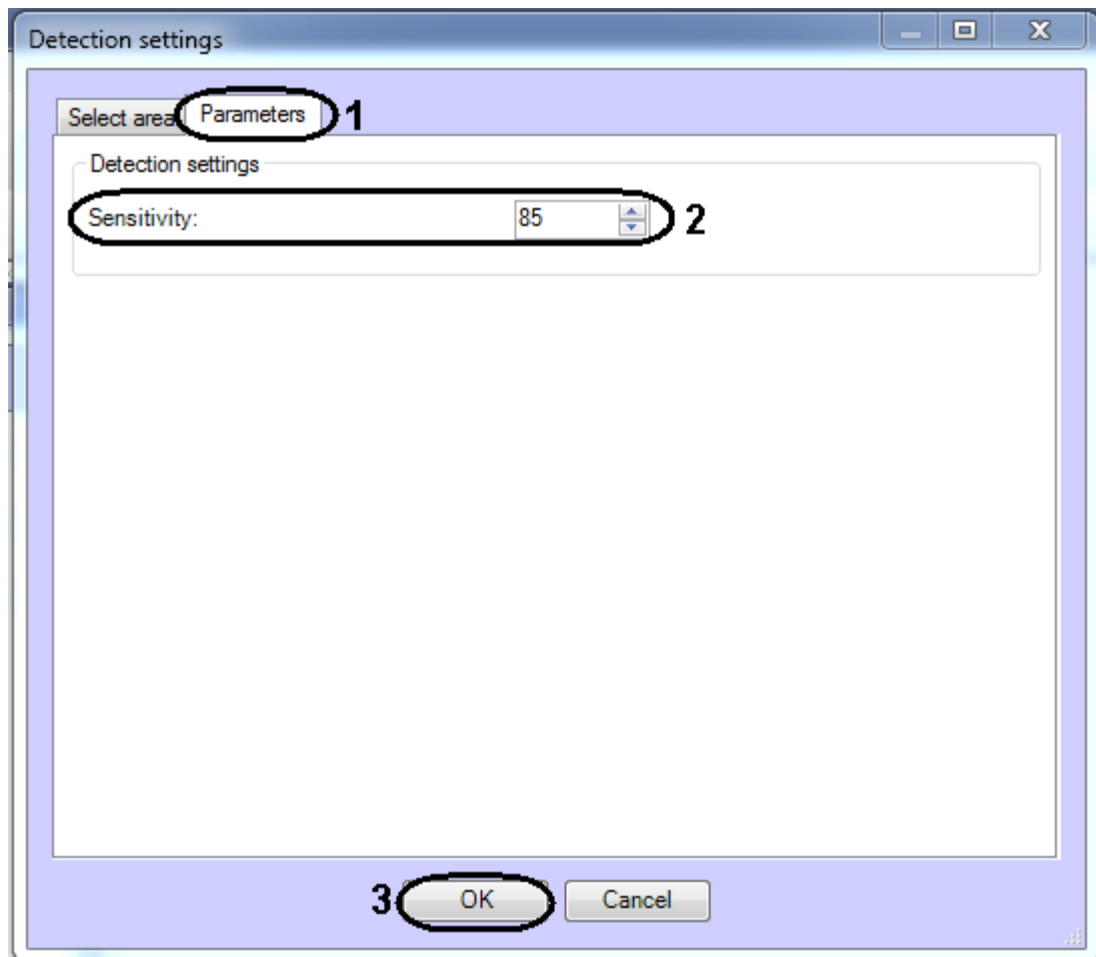

Fig. 6.4—5 Sensitivity configuration
4.2. Using the **up-down** buttons enter the value of sensitivity parameter in the **Sensitivity** field (Fig. 6.4—5, 2). The optimal value is selected experimentally by testing detection on triggering in the required conditions. The value range is from 0 to 100. The more sensitivity the more possibility of false triggering. The less sensitivity, the more possibility of losing event.
5. Click the **OK** button (Fig. 6.4—5, 3).